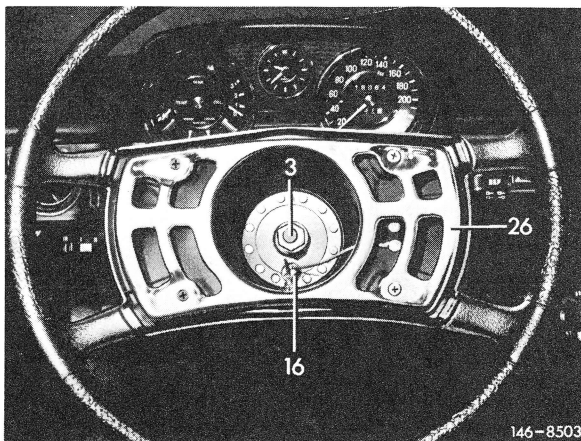

Fig. 2
2 Unscrew hex. nut (3). Remove spring washer first then steering wheel from steering spindle (Fig. 2).
5 Place spring washer on steering spindle, screw-on hex. nut (3) and tighten to 50 Nm (5 kpm) (Fig. 2).